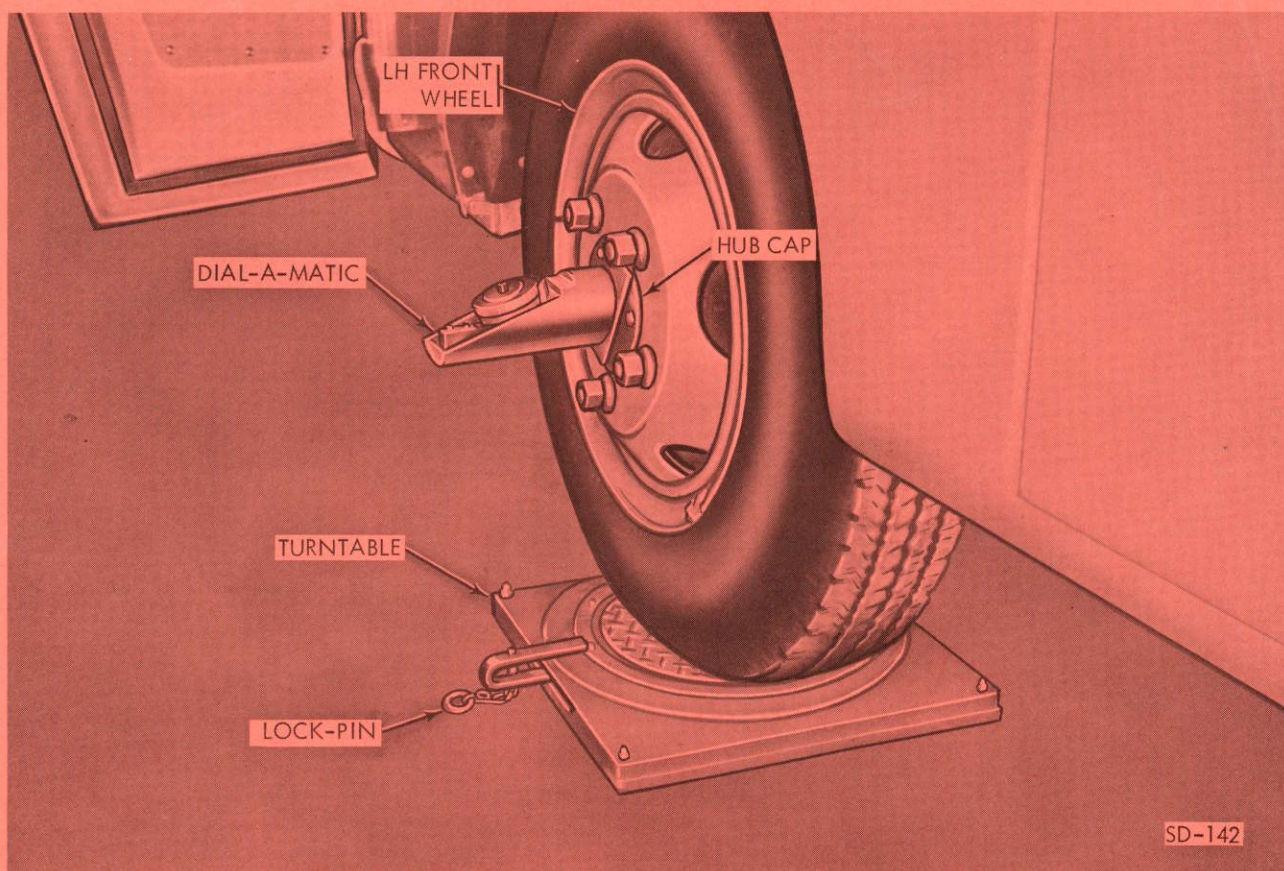

Figure 7-5. Front Wheel Alignment
(b) Using a John Bean "Dial-A-Matic" caster, camber and dual-level indicating device (fig. 7-5), or equivalent, magnetically attach to left-hand front wheel hub cap, with adapter, to get readings directly in line from spindle axle.
(3) *Caster Adjustment (fig. 7-5).* With levelling and camber adjusted as outlined in preceeding steps, proceed to adjust caster to 2 degrees positive as follows:
(4) *Toe-out Adjustment (Front) (fig. 7-5).* With levelling, camber and caster adjusted as outlined in preceeding steps, adjust toe-out 3/8 inches as follows: